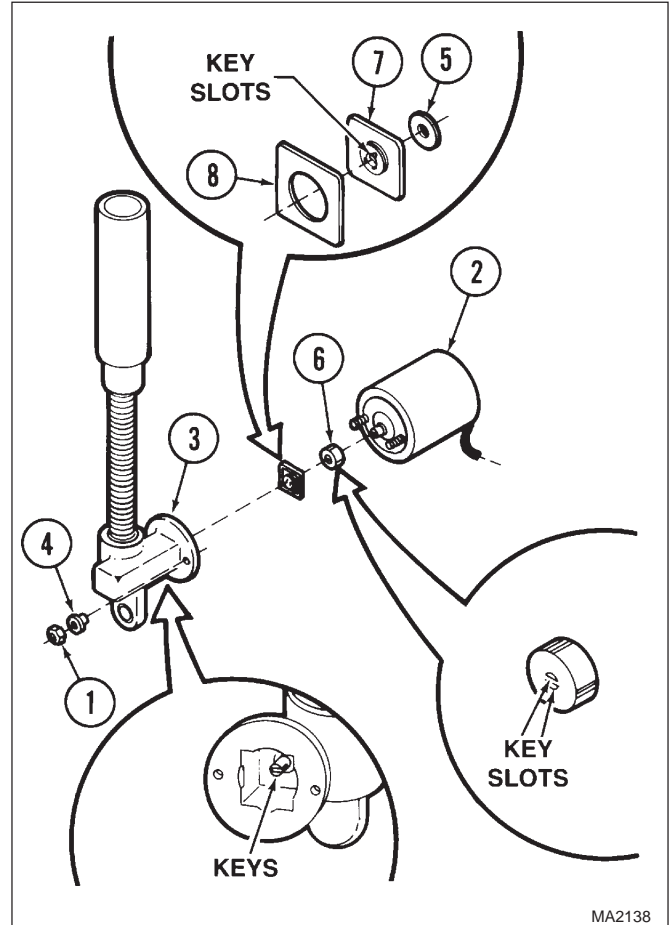

Figure 4-12. Base Actuator Disassembly / Assembly
- (1) Remove two nuts (1, Figure 4-12) and motor assembly (2) from actuator mechanism (3).
- (2) Remove two shoulder washers (4) from actuator mechanism (3).
- (3) Remove spacer (5) and motor coupler (6) from shaft of motor assembly (2).
- (1) Install rubber damper (8, Figure 4-12), actuator brake (7), and spacer (5) in actuator mechanism (3). Press parts firmly into actuator mechanism to ensure they are seated properly.
- (2) Install motor coupler (6) on shaft of motor assembly (2).
- (3) Install two shoulder washers (4) in actuator mechanism (3).